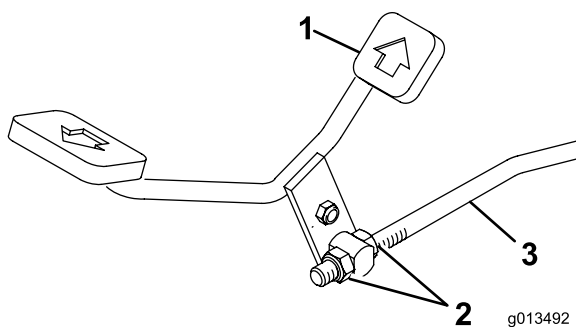

Figure 22
3. Loosen the jam nuts on the control rod (Figure 22).